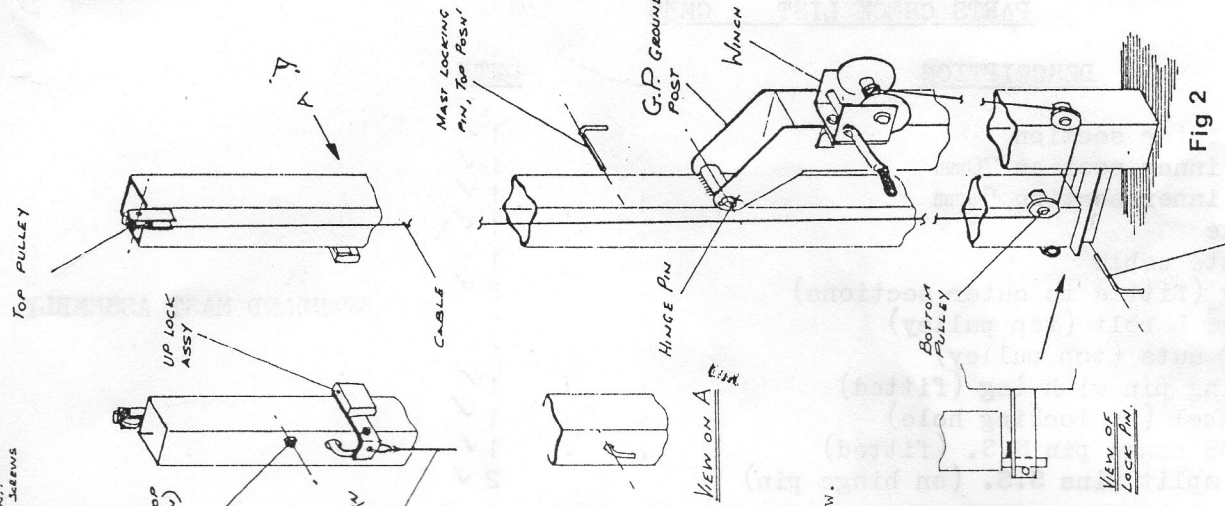

Fig 2
7. Attach the winch to the post as in Fig. 2 using the 3/8" bolts, plain washer, spring washer and nut.